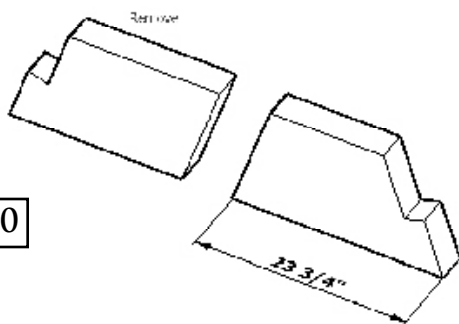

FIGURE 40
**Step 18:** Cut each of the remaining two smoke dome medium pieces, part 11, at an angle cut that is parallel to the un-cut end and so that its bottom length is  $23\frac{3}{4}$ " (Figure 40).